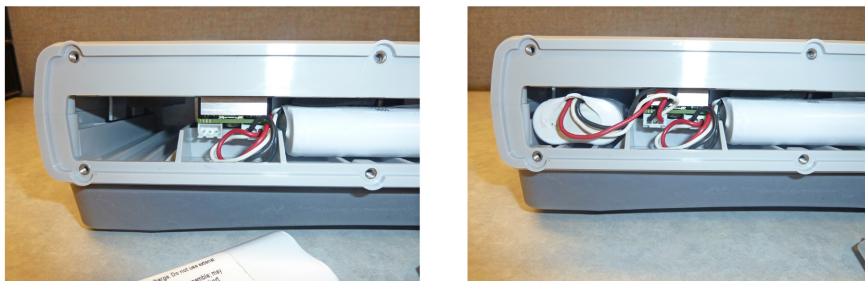

Figure 10-4. Adding the Second Battery
4. Slide the new batteries into the two battery bays and carefully plug in the battery connectors. (Figure 10-4).